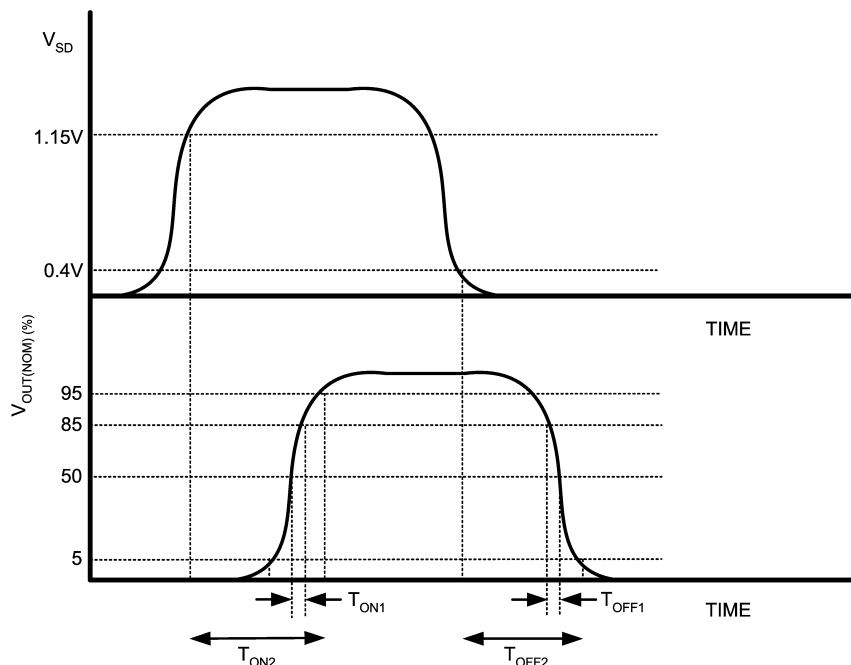

Figure 2. T_{on}/T_{off} Timing Diagram
- (1) All limits are guaranteed. All electrical characteristics having room-temperature limits are tested during production at $T_J = 25^\circ\text{C}$ or correlated using Statistical Quality Control methods. Operation over the temperature specification is guaranteed by correlating the electrical characteristics to process and temperature variations and applying statistical process control.
- (2) The device maintains the regulated output voltage without the load.
- (3) This electrical specification is guaranteed by design.
- (4) Short circuit current is measured on the input supply line at the point when the short circuit condition reduces the output voltage to 95% of its nominal value.
- (5) Time for V_{OUT} to rise from 50 to 85% of $V_{OUT(nom)}$. (Figure 2)
- (6) Time from $V_{SD} = 1.15V$ to $V_{OUT} = 95\%(V_{OUT(nom)})$. (Figure 2)
- (7) Time for V_{OUT} to fall from 85 to 50% of $V_{OUT(nom)}$. (Figure 2)
- (8) Time from $V_{SD} = 0.4V$ to $V_{OUT} = 5\%(V_{OUT(nom)})$. (Figure 2)